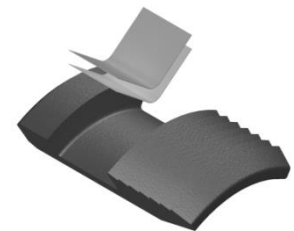

Fig. 3
**NOTE8:** Uses two (2 ea) springs per slip (Fig. 3).